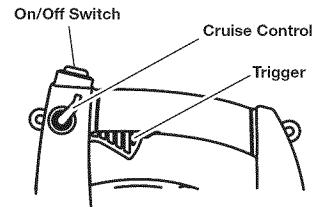

Fig. 8
NOTE: The unit should be started in idle. Do not squeeze the trigger until step 8 (Fig. 8).
8. Squeeze and hold the trigger, or press down the cruise control (Fig. 8), and allow the engine to warm up for 30 to 60 seconds.
2. Press and hold the On/Off switch in the OFF (O) position until the unit comes to a complete stop (Fig. 8).
- NOTE:** The unit should be started in idle. Do not squeeze the trigger until step 8 (Fig. 8).
10. Squeeze and hold the trigger, or press down the cruise control (Fig. 8), and allow the engine to warm up for 30 to 60 seconds.